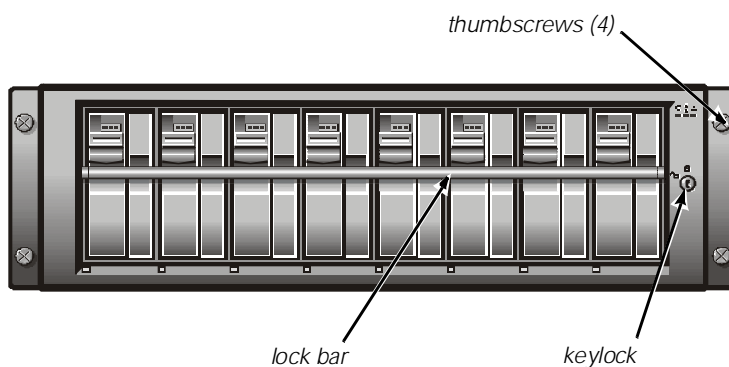

Figure 1. Front Panel
4. With your fingertips, tap up on the lock bar (see Figure 1).